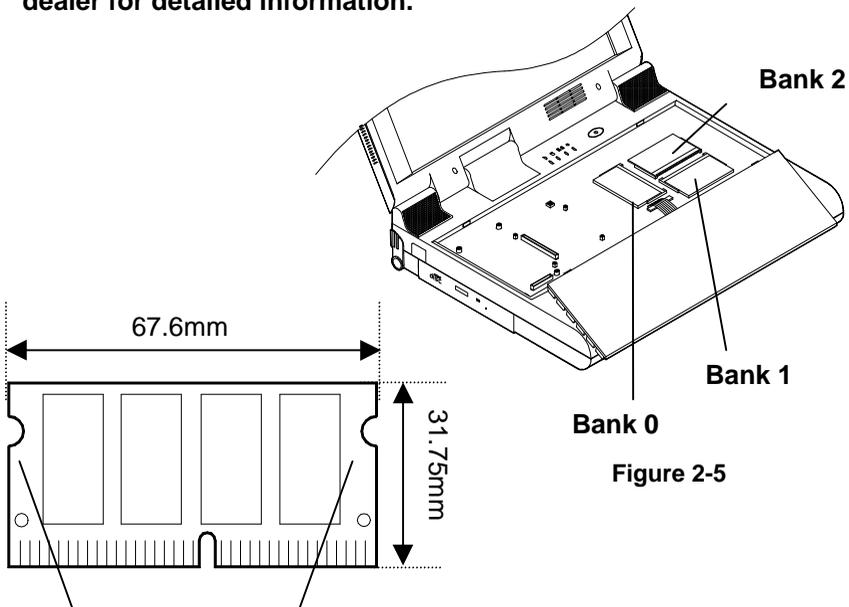

Figure 2-5
3. Carefully lift the keyboard assembly out to expose the mainboard. Locate the memory sockets (Figure 2-5).